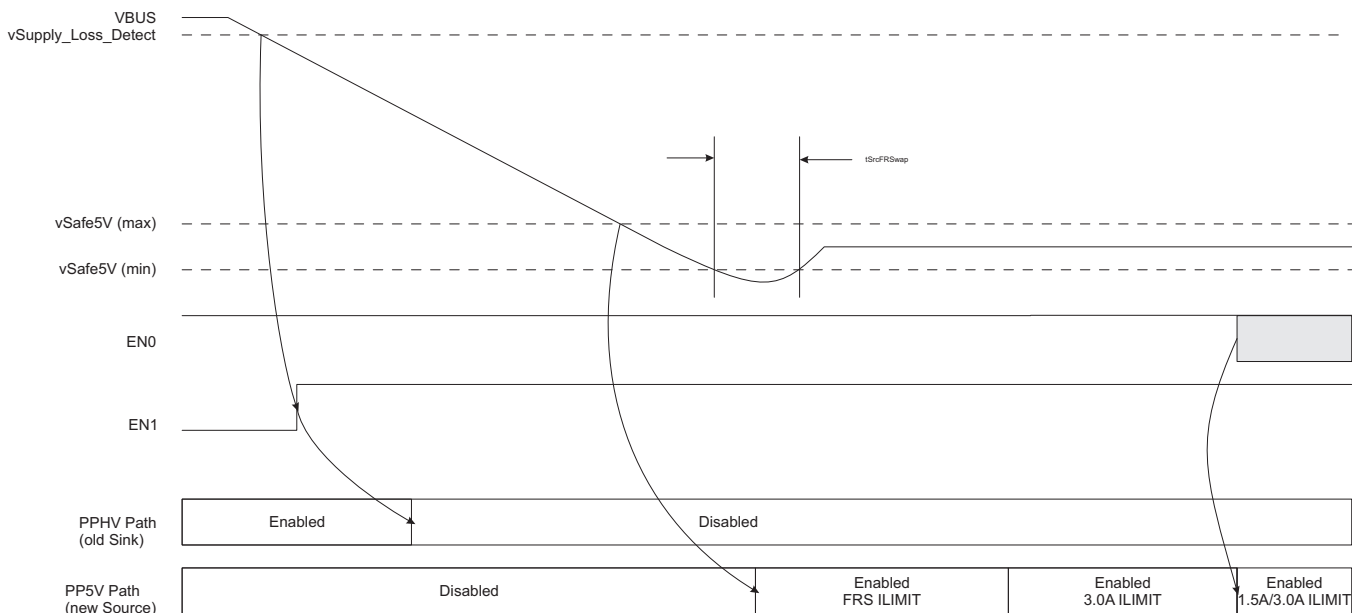
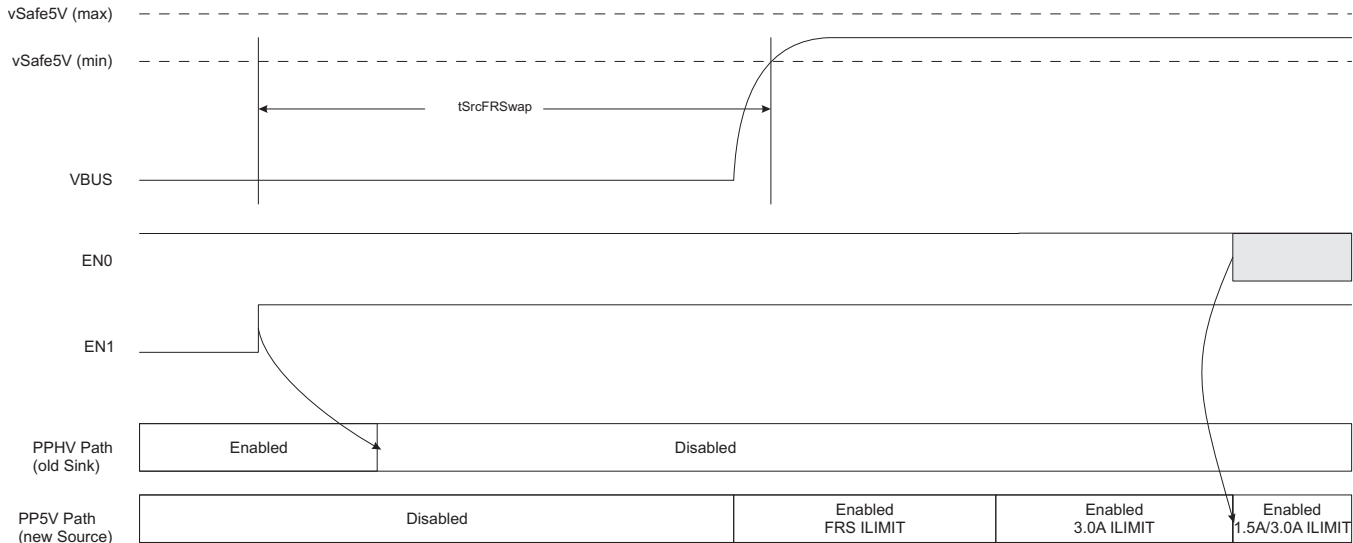

Figure 26. Fast Role Swap Events - Case 1
图 27. Fast Role Swap Events - Case 2
5. There are two cases to consider. In Case 1, as shown in Figure 26, VBUS begins to decay, while being continuously monitored by the vSafe5V comparator circuitry that indicates when VBUS has fallen below vSafe5V. Once this occurs, the comparator output is asserted indicating to the fast role swap hardware that it is safe to turn on the PP5V path, and the PP5V path is enabled automatically. In Case 2, as shown in Figure 27, VBUS may have fallen below vSafe5V, or even fully discharged to ground, so the comparator output may already be asserted low. If so, the PP5V path shall be immediately enabled. It should be noted in this scenario, since the VBUS capacitance has been fully discharged, a significant in-rush current will occur when the PP5V path is enabled. Application should ensure sufficient decoupling capacitance is applied on the PP5V supply or that the supply is designed to react to fast transient responses to avoid brown-out of the supply rail.